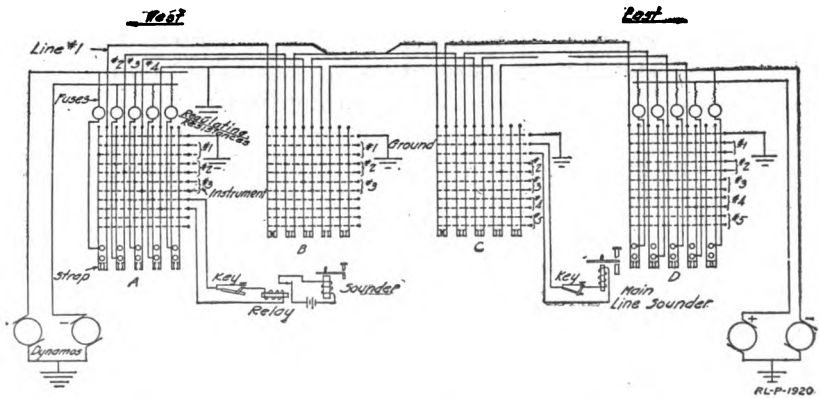

Fig. 30.—Four-station telegraph line with connections
Wire No. 1, Fig. 30, stations B and C.
Suppose a line (Fig. 30) has four wires and four stations, A west, B and C intermediate, D east. Wire No. 4 is grounded between A and B, wires Nos. 1 and 2 are crossed between B and C, and wire No. 3 is opened between C and D.
- (1) Establish two terminal offices each equipped with a peg switchboard and positive and negative storage battery.
- (2) Establish two intermediate offices equipped as in the first seven operations.
- (3) Commencing at west terminal name the offices A, B, C, and D.
- (4) Connect wires No. 1 and 2 between terminal offices, passing through both intermediate boards without connecting instruments. Connect line battery and instrument at terminal offices. (See Fig. 30.)